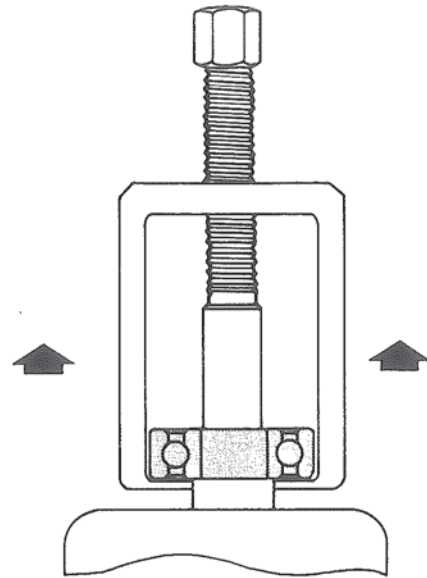

Figure 14. Removing Front Bearing.
11. Remove front bearing from rotor shaft using a bearing puller. Figure 14.